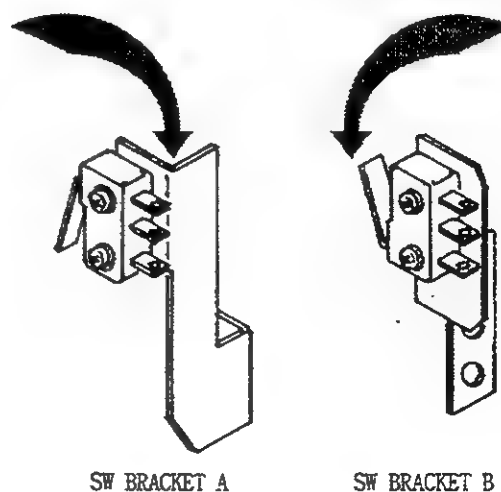

FIG. 14.3
- ④ To secure the replaced SW to the bracket, incline it as shown (FIG. 14.3). Securely fasten the screws by applying an anti-loosening agent to the screws.
- ⑤ Install the SW bracket with 2 screws. When installing SW BRACKET A, an adjustment in the following procedure is required.
- ⑥ After SW replacement, check the SW input in the test mode.